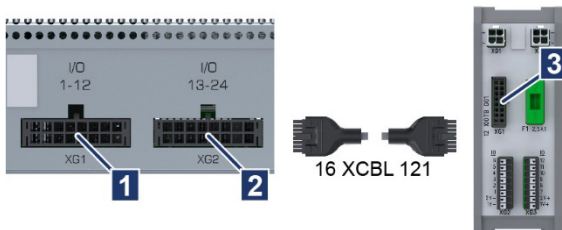

Fig. 6-2: XIO to XIOTB
1. Plug the connection cable 16 XCBL 121 into terminal XG1 (I/O 1-12) or XG2 (I/O 13-24) (→ Fig. 6-2/1 and 2) on the I/O module and into terminal XG1 on terminal block XIOTB (→ Fig. 6-2/3).